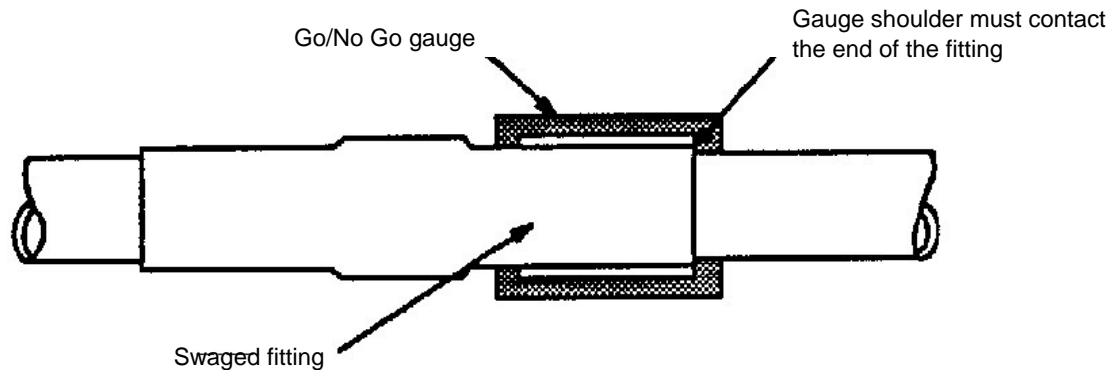

Figure 11. Go/No-Go Swage Check
6.6 Check to ensure an adequately swaged outside diameter and that a sufficient length of the fitting has been swaged (see Figure 11) using the applicable GO/NO-GO gauge from Table 3 for the swaged tube size. The die segment produces longitudinal ridges on the swaged fitting. Check the outside diameter of the fitting in the area between the ridges. Ensure that the GO/NO-GO gauge is against the fitting end so that the swage diameter is checked at the correct location. If the GO/NO-GO gauge does not fit over the swaged fitting end, the fitting is oversized and is not acceptable. It is not necessary for the gauge to rotate freely when in position; if in doubt check using the gauge at several points around the swage. Fittings that fail to meet the dimensional requirements are unacceptable and